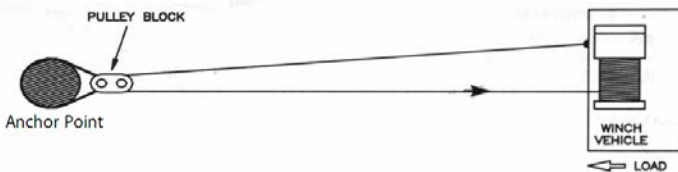

Figure 19
4. Figure 19 illustrate a method of rigging used to obtain a mechanical advantage. The use of a pulley block will almost double pulling line capacity.